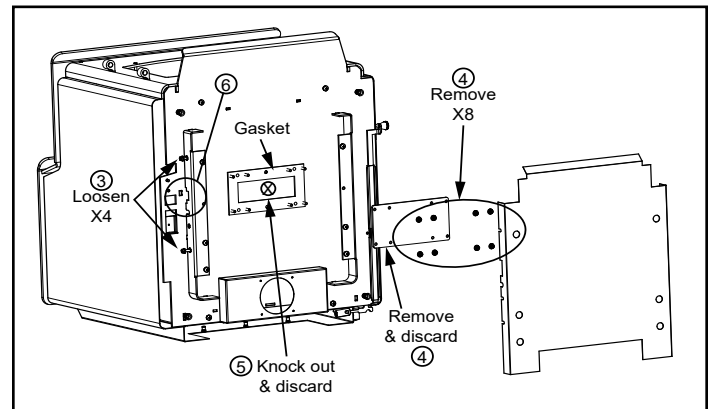

Figure 18.3
3. Lay appliance on its back on a protective pad or pallet (**Figure 18.3**).
4. Remove heat shield by loosening the four bolts using 3/8 open end wrench (**Figure 18.3**).
5. Remove 8 nuts that hold the cover plate on using a 7/16 socket wrench; discard cover plate (**Figure 18.3**).
6. Remove knock out from bottom of firebox by using a hammer (**Figure 18.3**).
5. Remove (8) nuts that hold the cover plate on using a 7/16 socket wrench; discard cover plate (**Figure 18.3**).